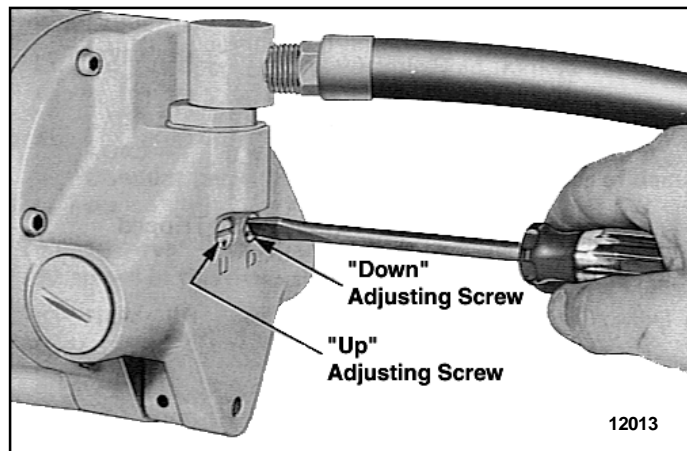

Figure 2-4. Hoisting and Lowering Speed Adjustment.
b. To adjust the hoisting or lowering speed, turn appropriate regulator\_ screw (Figure 2-4) in either direction a little at a time while operating hoist under load.